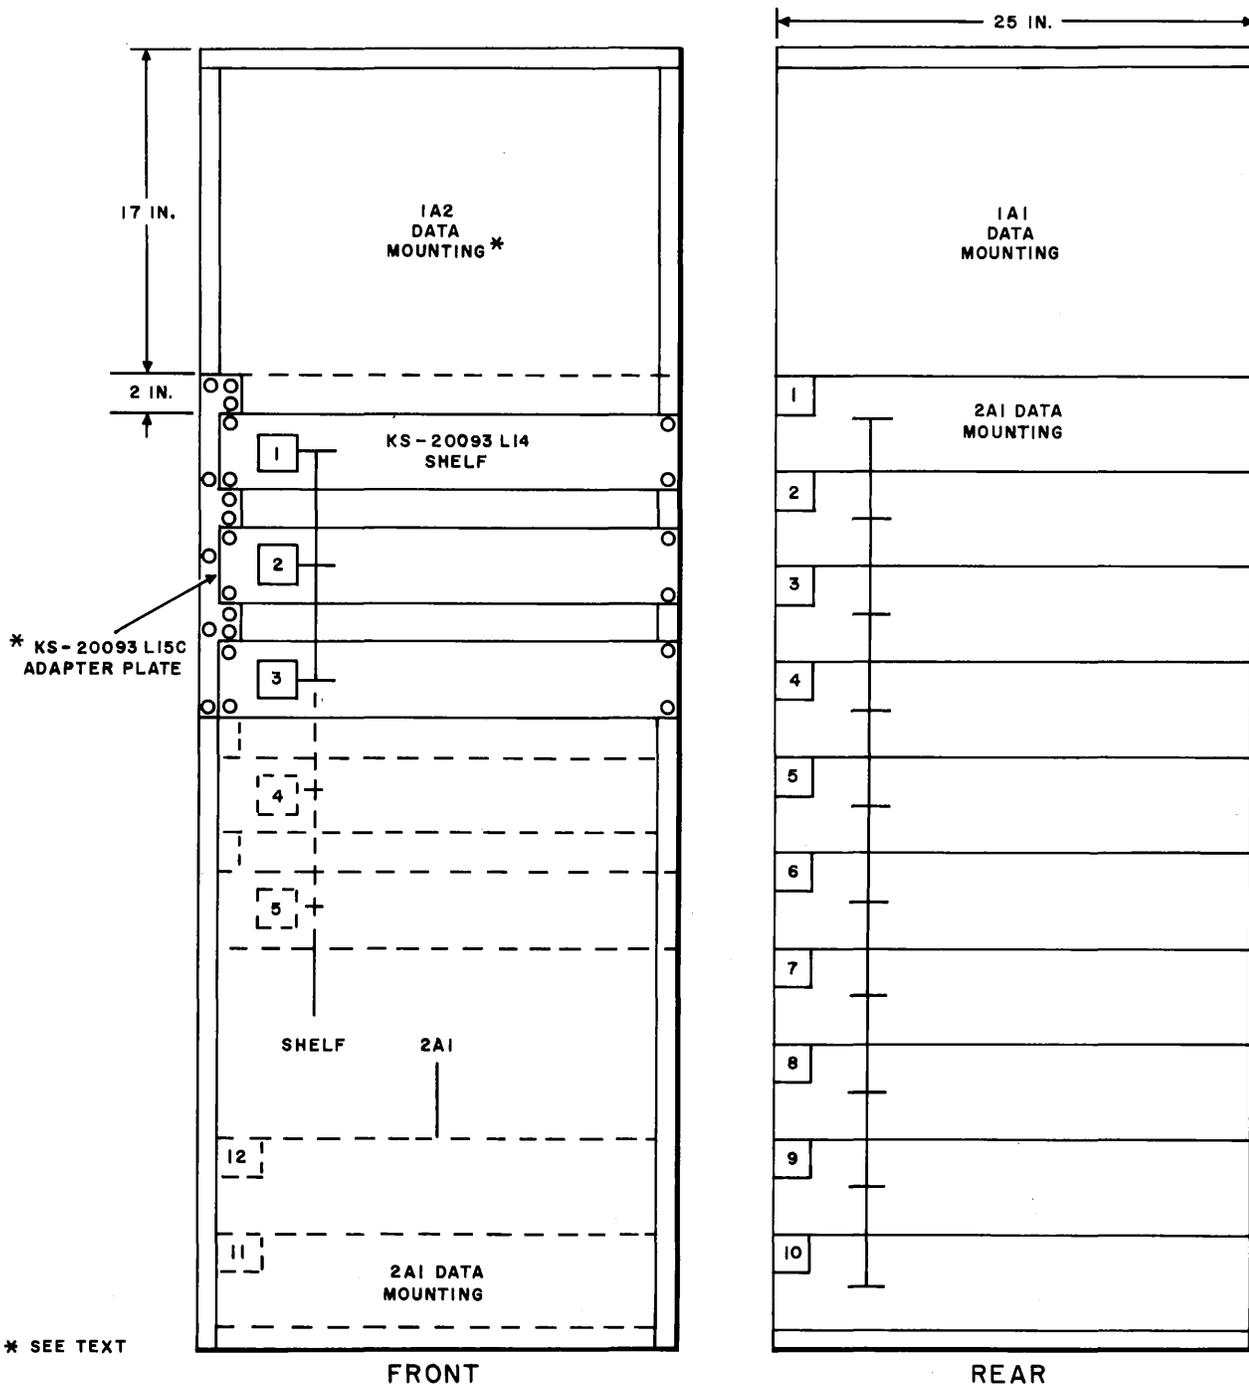
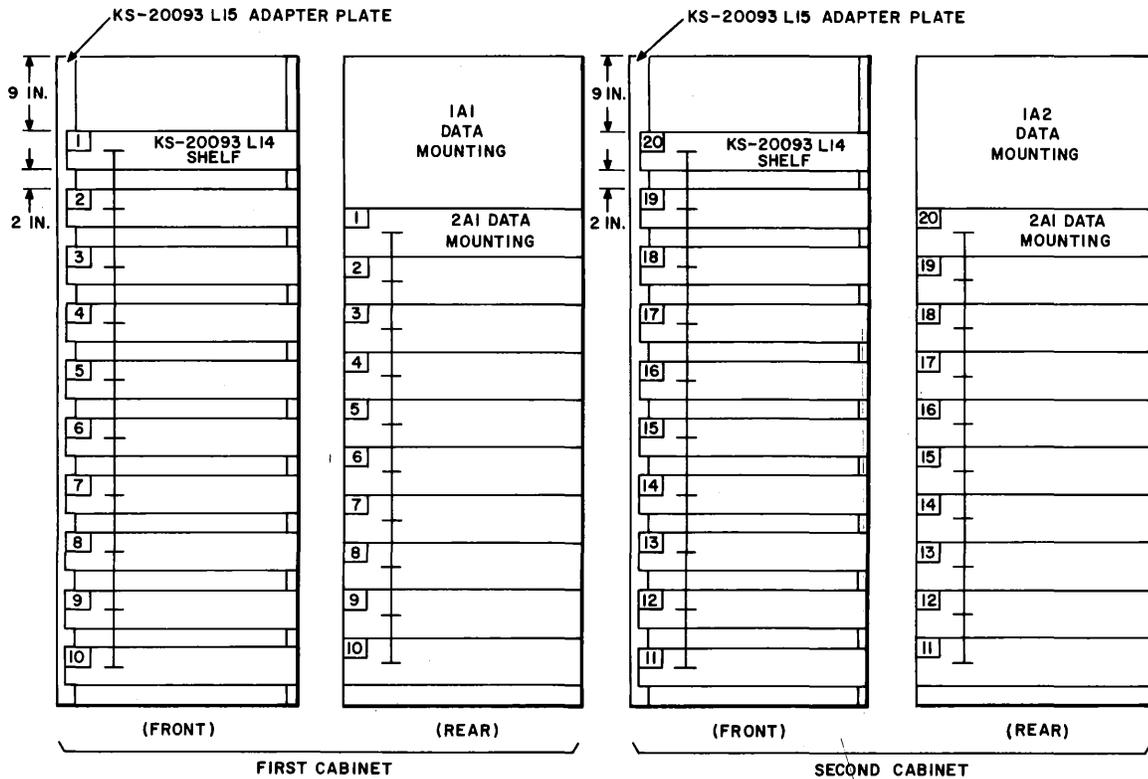
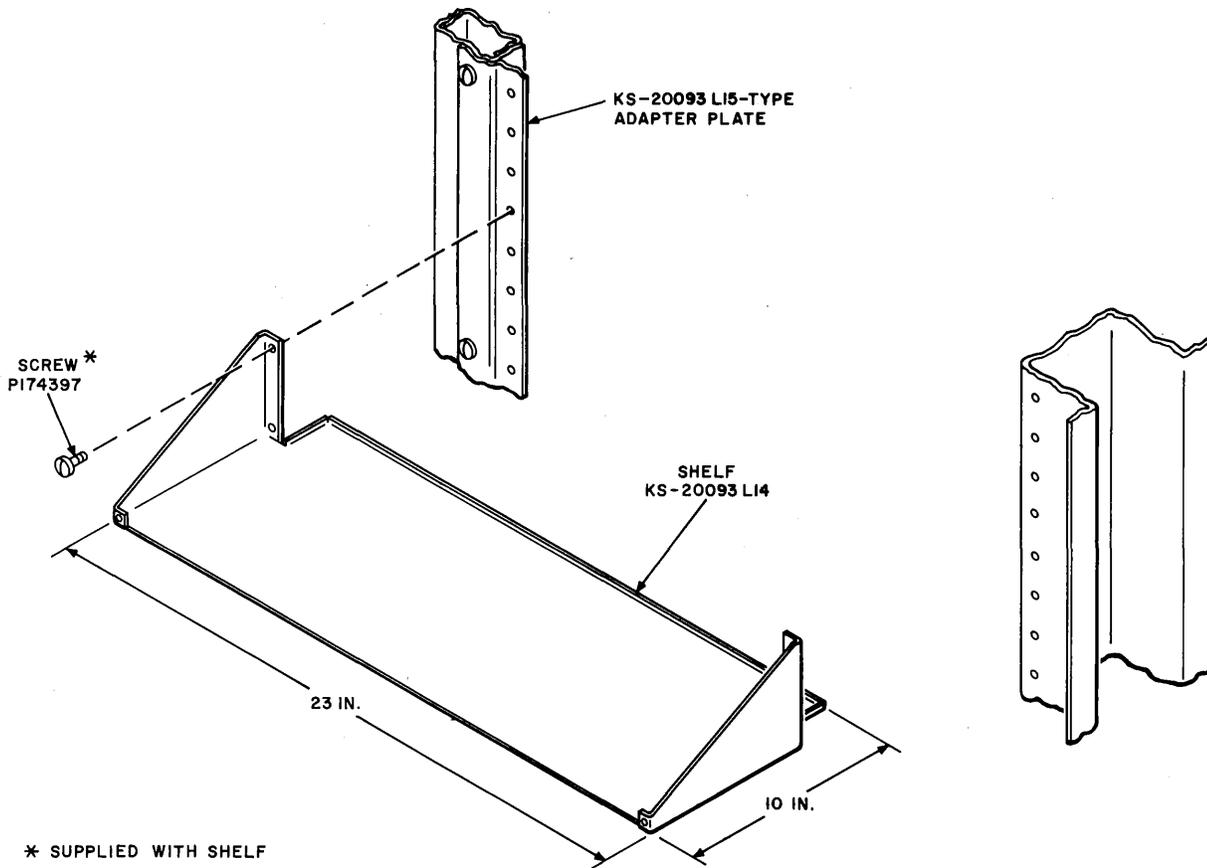

Fig. 2—Physical Layout of KS-20093-L1 Cabinet When Partially Filled and With Space Provided for Data Auxiliary Sets 801-Type
Fig. 4—Physical Layout of KS-20093-L1 Cabinets When Completely Filled With Data Sets and With Space Provided for Data Auxiliary Sets 801-Type
Fig. 13—Installation of KS-20093-L14 Shelf When Data Auxiliary Sets 801-Type are Used
2.04 When the cabinet is to be partially filled, 2A1 Data Mountings are installed in the rear of the cabinet under the 1A1 Data Mounting (refer to Fig. 2, Rear View). Ten 2A1 Data Mountings can be installed in the rear, thereby providing for a maximum of 20 data sets (2 for each 2A1 Data Mounting) in the rear of the cabinet. The data mountings are installed, working downward until the required number of data sets can be accommodated.
2.06 When Data Auxiliary Sets 801-type are used with the data sets, KS-20093-L14 shelves are required to hold the data auxiliary sets (see Fig. 4). One shelf will hold two data auxiliary sets. KS-20093-L15-type adapter plates are required to adapt the 23-inch shelf to the 25-inch frame of the cabinet. For a completely equipped 103E-type Data Station (40 data sets equipped with 40 data auxiliary sets), 2 KS-20093-L1 cabinets will be required.
Note: When the data sets are equipped with Data Auxiliary Sets 801-type, two KS-20093-L1 cabinets may be required (see Fig. 4).
3.13 The 2A1 Data Mountings are mounted on the rear of the cabinet in the same configuration as given in 3.07 and in Fig. 2.
remaining data mountings (in the example) should be installed on the front of the cabinet by starting at the bottom (No. 11 and 12 on Fig. 2).
3.15 When a partially equipped cabinet is to contain 12 or more data auxiliary sets, the configuration shown in Fig. 4 should be considered. This will provide for standard configurations and future expansion.
plate is mounted on the left side of the cabinet as shown in Fig. 2. The number of KS-20093-L14 shelves to be installed will determine the length of the adapter plates required. Table A lists the adapter plate codes and the length of each.
3.26 The shelves should be positioned and installed in a partially equipped cabinet as shown in Fig. 2. For a fully equipped cabinet refer to Fig. 4 for the shelf positions. The shelf is installed by using the screws (P174397) supplied with the shelf as shown in Fig. 13.